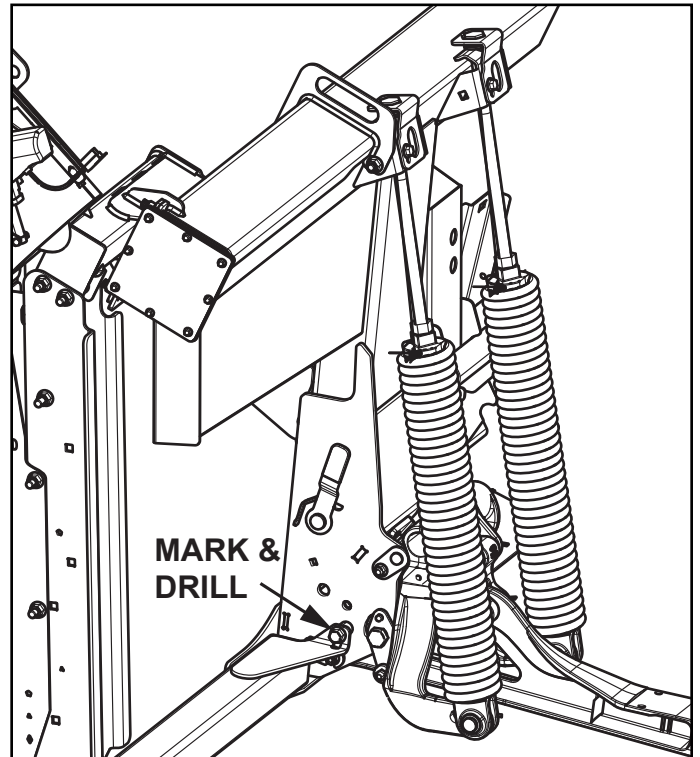
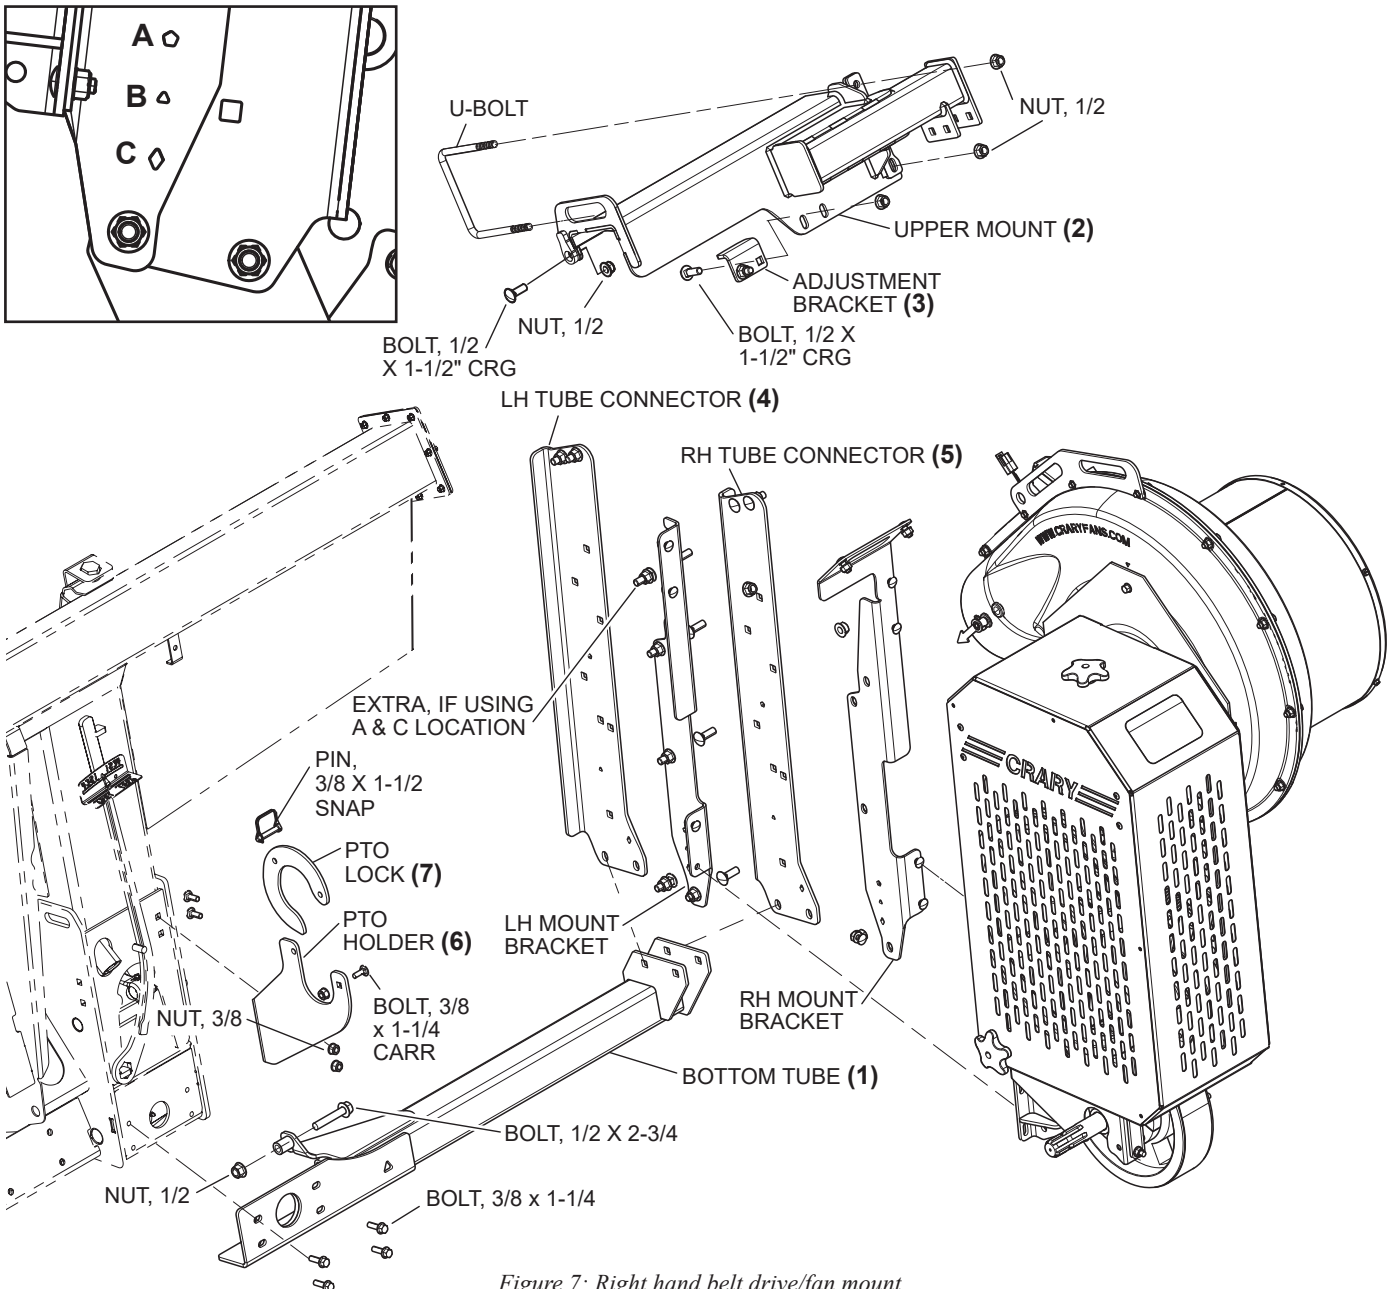

Figure 5: Main mount bracket location, from front right side (Portions of header and Belt drive/fan assembly not shown)
Figure 7: Right hand belt drive/fan mount
2. Mark and drill a $\text{Ø}17/32$ " hole, refer to Figure 5. Install 1/2 X 2-3/4 flange bolt and nut.
3. Place the upper mount **(2)** on the center adapter as shown in Figure 5. Attach the mount with a 1/2" x 1-1/2" carriage bolt and nut and a 1/2" X 6.5 x 6 U-bolt and two nuts, see Figure 7.
5. Bolt the bottom of the LH tube connector **(4)** to the bottom tube **(1)** using one 1/2" x 1-1/2" carriage bolt and nut as shown in Figure 5 and Figure 7. Then, attach the top of the bracket to the upper mount weldment using two 1/2" x 1-1/2" carriage bolts and nuts. Repeat for the RH tube connector **(5)**. Tighten all hardware.
7. This is a universal mount bracket. Refer to Figure 7 and table for correct combine mounting location. The symbol on the two mounting brackets will align with the symbol on the bracket installed in step 4.
9. Attach the PTO holder (6) to the header using two 3/8" x 1-1/4" bolts and nuts (Figure 7).
10. Attach the PTO lock (7) to the PTO holder (6) using a 3/8" x 1-1/4" bolt and nut. Confirm that the PTO lock plate pivots freely.
11. The snap pin will be used to secure the PTO lock (7) closed.